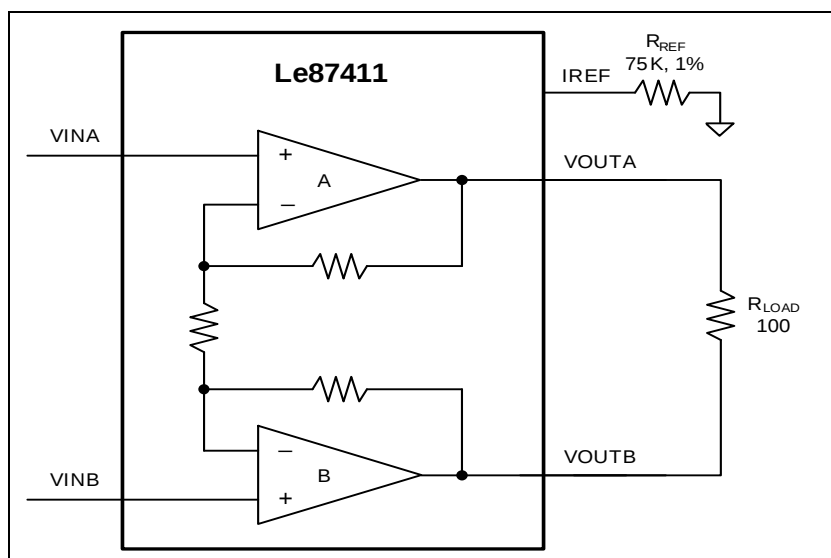

Figure 1. Basic Test Circuit
**Typical Conditions:** As shown in the basic test circuit (Figure 1) with  $V_S = +12\text{ V}$ ,  $R_{REF} = 75\text{ k}\Omega$ , and  $T_A = 25^\circ\text{C}$ .